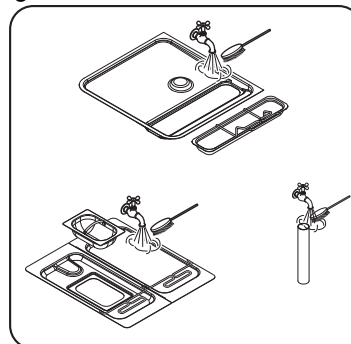
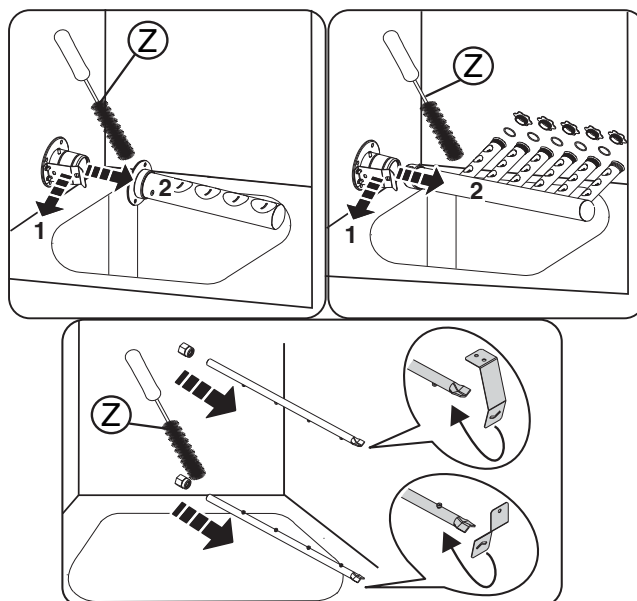

Figure 37 Remove and cleaning filters
Figure 38 Remove and cleaning arms
- Open the machine doors and remove the filters, overflows (Figure 37) and prewash, wash and rinse arms (Figure 38).
- In particular, for prewash, wash and rinse arms use a warm soapy water and a soft brush “Z” (Figure 38).